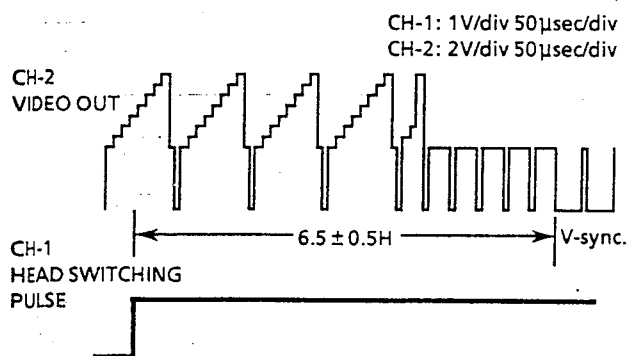

Figure 2-3.
5. Adjust R704 so that the leading edge of the head switching pulse is $6.5H$ (lines) ahead of the vertical sync. as shown in Figure 2-3.